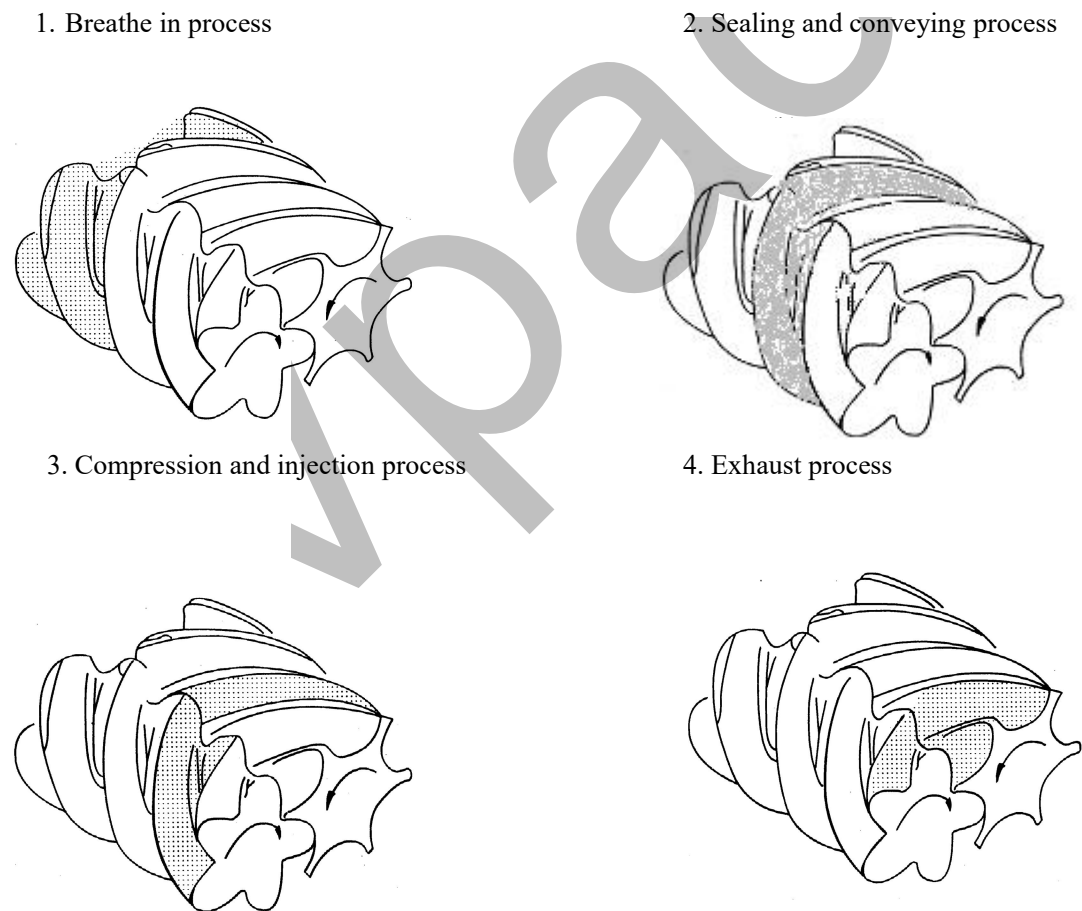

图 3
3、 Compression principle of screw compressor (refer to Figure 3)